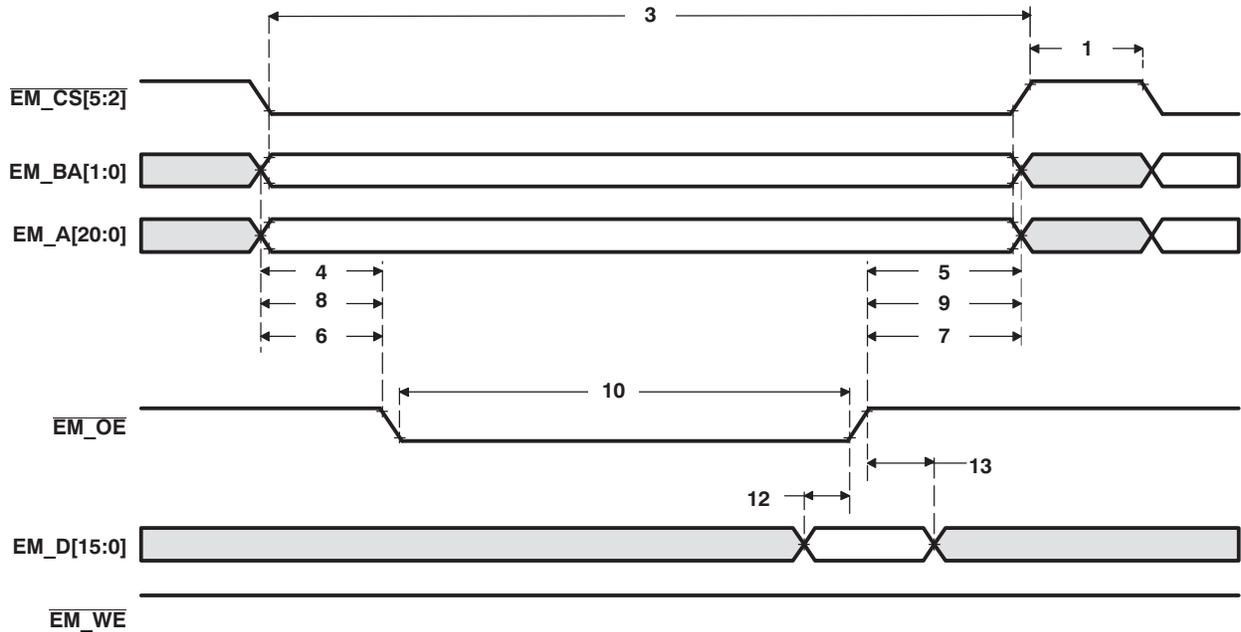
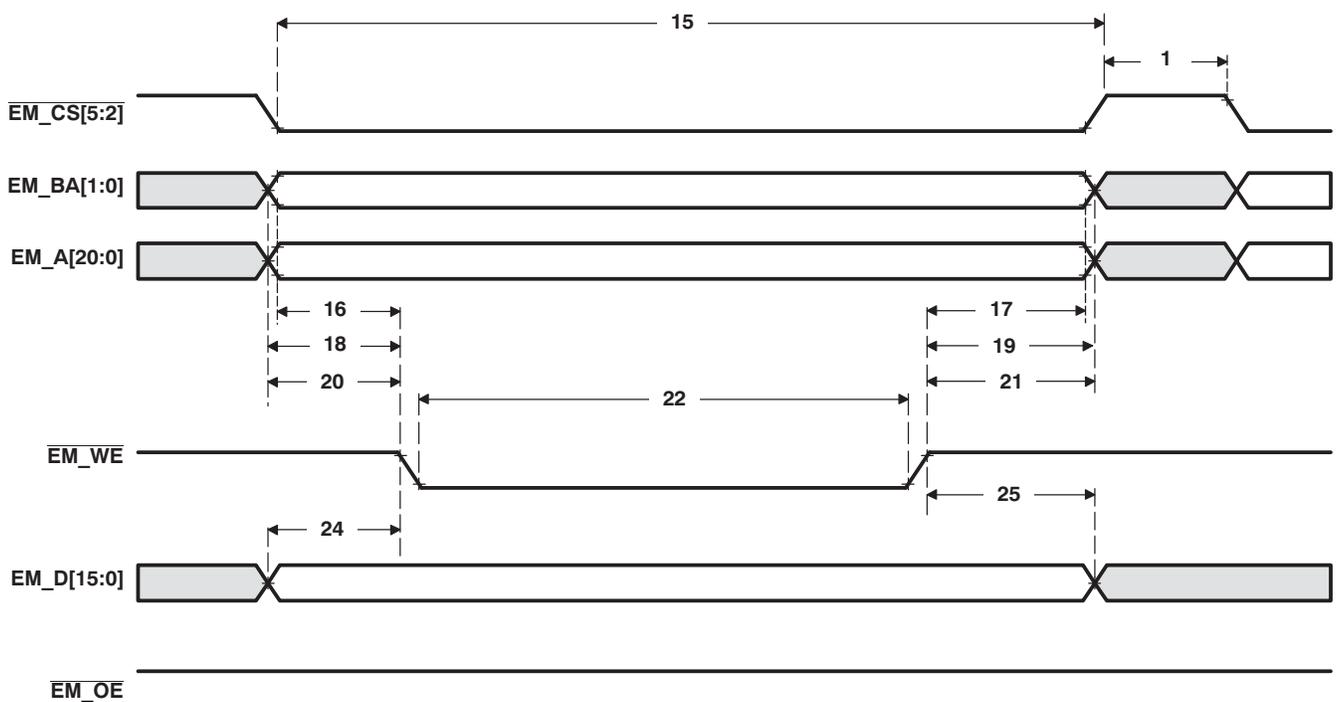
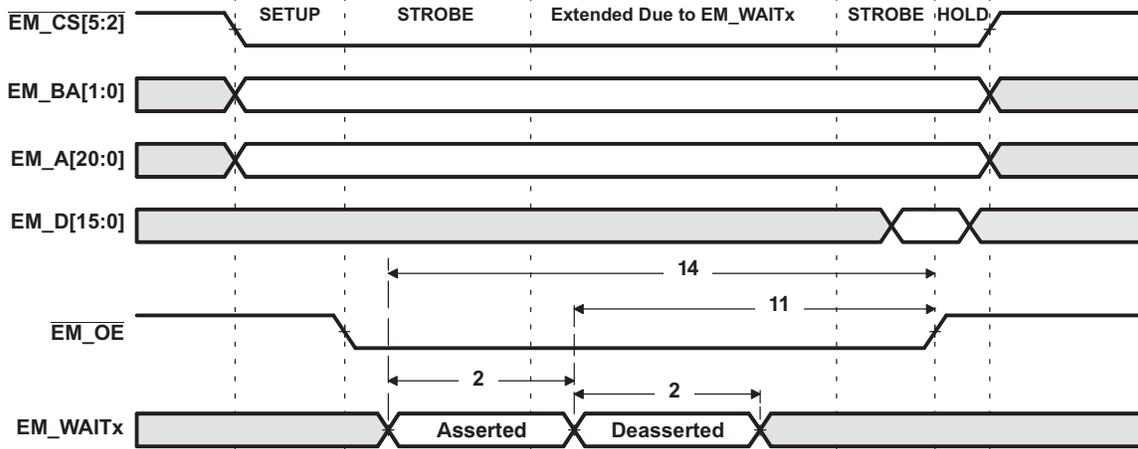
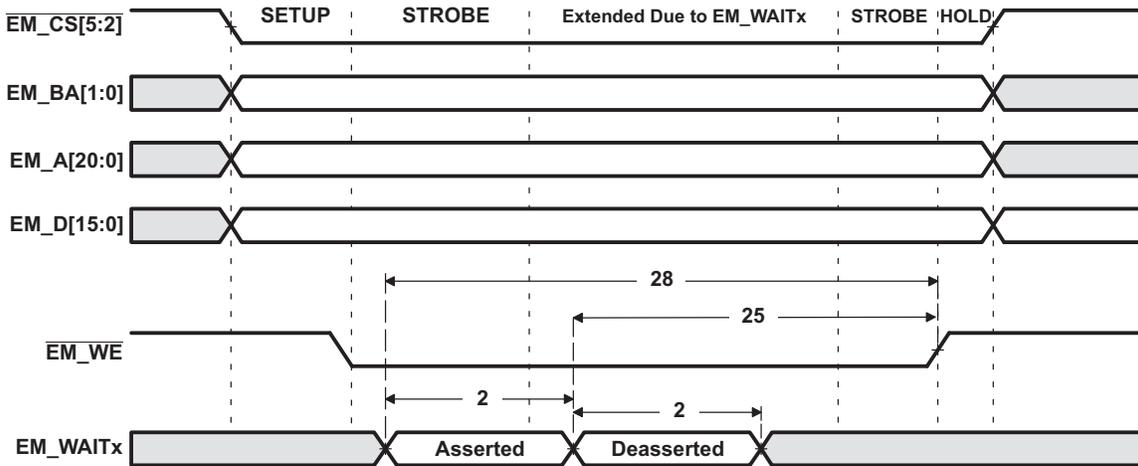

Figure 5-14. Asynchronous Memory Read Timing for EMIF
Figure 5-15. Asynchronous Memory Write Timing for EMIF
Figure 5-16. EM_WAITx Read Timing Requirements
Figure 5-17. EM_WAITx Write Timing Requirements
Table 5-13. Switching Characteristics Over Recommended Operating Conditions for EMIF Asynchronous Memory⁽¹⁾⁽²⁾ (see Figure 5-15 and Figure 5-17)⁽³⁾
Table 5-13. Switching Characteristics Over Recommended Operating Conditions for EMIF Asynchronous Memory (see Figure 5-15 and Figure 5-17) (continued)
Table 5-14. Timing Requirements for EMIF Asynchronous Memory⁽¹⁾ (see Figure 5-14, Figure 5-16, and Figure 5-17)
- (1) E = SYSCLK period in ns, if EMIF is set for "full rate" **or** E = SYSCLK/2 period in ns, if EMIF is set for "half rate" as defined by bit 14 of the EMIF Status register (0x1001h). For example, when EMIF is set to full rate and SYSCLK is selected and set to 100 MHz, E = 10 ns.
- (2) Setup before end of STROBE phase (if no extended wait states are inserted) by which EM_WAITx must be asserted to add extended wait states. Figure 5-16 and Figure 5-17 describe EMIF transactions that include extended wait states inserted during the STROBE phase. However, cycles inserted as part of this extended wait period should not be counted; the 4E requirement is to the start of where the HOLD phase would begin if there were no extended wait cycles.
Table 5-15. Switching Characteristics Over Recommended Operating Conditions for EMIF Asynchronous Memory⁽¹⁾⁽²⁾⁽³⁾ (see Figure 5-14, Figure 5-16, and Figure 5-17)
Table 5-15. Switching Characteristics Over Recommended Operating Conditions for EMIF Asynchronous Memory (see Figure 5-14, Figure 5-16, and Figure 5-17) (continued)